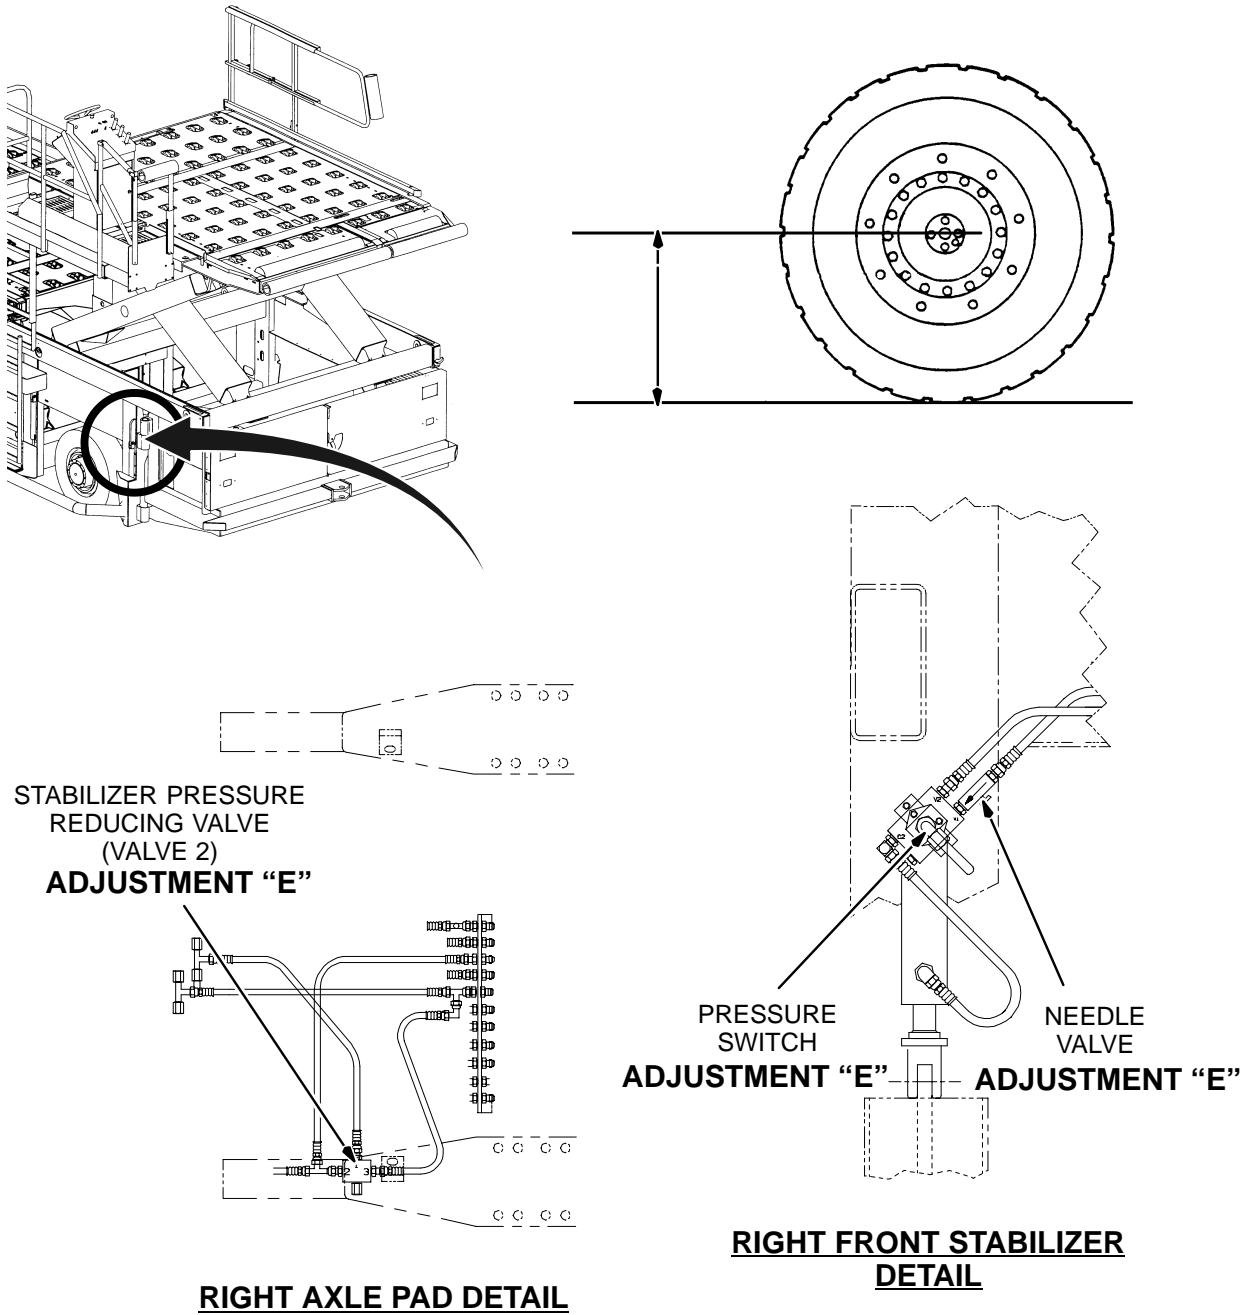
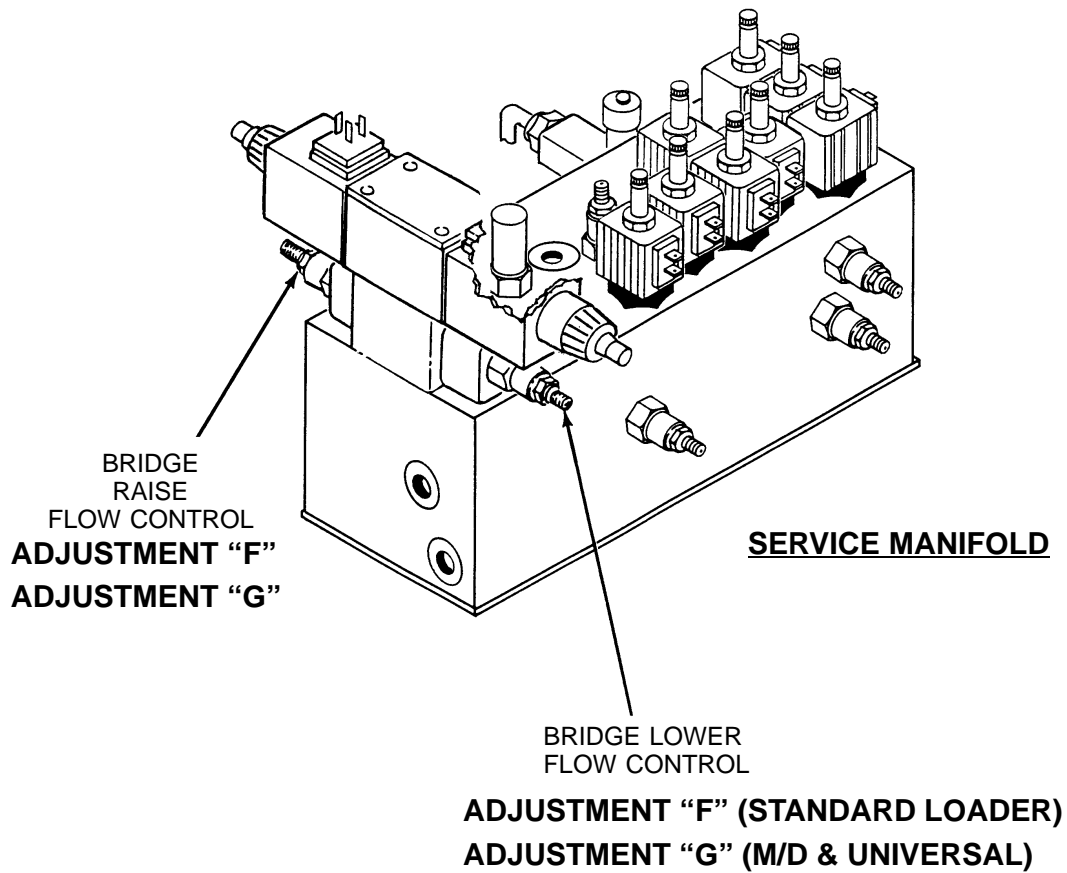

Figure 10
Figure 11
E. Stabilizer Adjustments (Figure 9, Figure 10)
- (6) Loosen the locknut on the stabilizer pressure switch and turn the adjusting screw fully clockwise (Figure 10).
- (7) Have assistant start the power unit and extend the stabilizers by setting the MODE SWITCH to OPERATE.
- (9) Have assistant start the power unit and raise the stabizers by setting the MODE SWITCH to DRIVE.
- (10) With the stabilizers raised, measure and record the distance from the center of the left drive wheel planetary gear case to the ground (Figure 10).
- (11) Cycle the stabilizers several times, then set the stabilizers.
- (12) Measure the distance from the point previously marked on the drive wheel to the ground. This distance should now be 6-10mm (1/4-3/8") greater than the previous measurement.
- (13) To adjust this distance, loosen the locknut on the stabilizer pressure reducing valve (Figure 10, valve 2), and turn the adjusting screw clockwise to increase the distance, or counterclockwise to decrease the distance. Tighten the locknut and close the power unit after each adjustment.
- (14) Cycle the stabilizers to verify the adjustment is correct.
- (15) Next, turn the adjusting screw of the pressure switch fully counterclockwise, and have the assistant reset the stabilizers.
- (16) Adjust the pressure switch to obtain equal center-to-ground measurements at both planetary gear cases. To adjust pressure switch, turn adjusting screw clockwise to increase the pressure and increase the rise of the right gear case, or counterclockwise to decrease the pressure and rise. Tighten locknut and close power unit after each adjustment (Figure 10).
- (17) Cycle the stabilizers several times to verify that the adjustment is correct.
- (18) Adjust the flow control valve on the right-front stabilizer to obtain a 2-3 second delay on extension and retraction from all other stabilizer cylinders (Figure 10). Turn the adjustment screw clockwise to increase the delay time, or counterclockwise to decrease the delay. **THE RIGHT-FRONT STABILIZER MUST BE THE LAST STABILIZER TO EXTEND AND RETRACT.** Tighten locknut and close power unit after each adjustment.
- (19) Reconnect the wires to the boggy wheel extend solenoid valve #29SOL.
- (20) Swing the power unit to the closed position and secure it with retention bolt.
F. Bridge Raise/Lower Flow Controls – STANDARD LOADER (Figure 11)
- (4) To adjust bridge raise flow control, loosen locknut on adjusting screw and turn adjusting screw clockwise to decrease flow (increase time), or counterclockwise to increase flow (decrease time).
- (5) To adjust bridge lower flow control, loosen locknut on adjusting screw and turn adjusting screw clockwise to decrease flow (increase time), or counterclockwise to increase flow (decrease time).
- (6) When adjustments are completed, tighten locknuts securely on adjusting screws.
- (7) Clean up any hydraulic oil that has leaked.
- (8) Swing power unit closed and secure with retention bolt.
G. Bridge Raise/Lower Flow Controls – MAIN DECK AND UNIVERSAL LOADER (Figure 11)